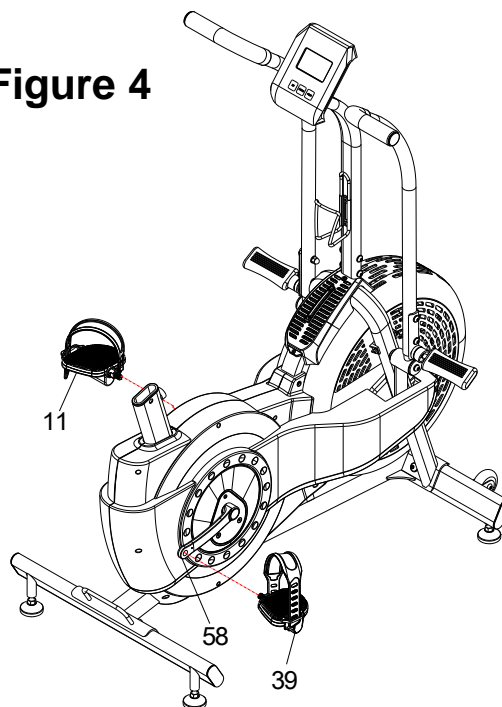

**Figure 3**
- 1) Locate the handlebar hardware bag labeled Figure 3.
- 2) (**See Figure 3**) Insert the left handlebar assembly # (6) to the handlebar post on the left side of the main frame # (1).
- 3) Place the pedal rod bracket # (8) to the handlebar assembly # (6).
- 4) Secure the two parts together with four button head bolts # (65), arc washer # (66), and acorn nuts # (67).
- 5) Repeat the same process for the right handlebar assembly # (7). Using the 5mm T-handle Allen wrench and the 13mm wrench, firmly tighten the hardware.